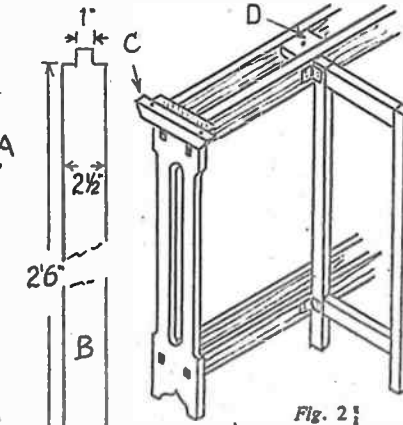
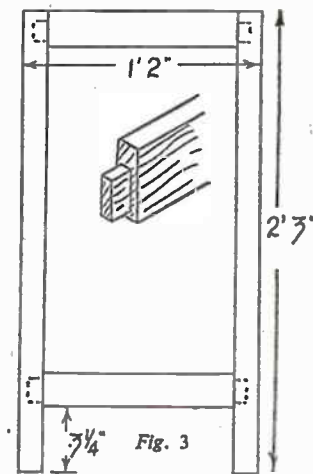

Fig. 2
Fig. 3
Glue the rails between the sides, and drive in 1 1/2 in. oval nails just above and below the tenons into them. A strong joint should result. Cut two pieces of 3/4 in. wood to 8 ins. long and 3/4 in. wide. With the 3/4 in. width horizontal, glue and nail these to the sides at the top as at (C) in Fig. 2, and bevel the ends of them to 45 degrees. Two screw holes are bored in them through which the screws, which fix the top in position, can afterwards be driven. For the same purpose, a piece of wood, say, 2 ins. long, is nailed between the rails as shown at (D). Be careful here to make sure that parts (C) and (D) are level on top with sides and rails, and that parts (C) extend over the sides just 3/4 in. each way.
The swinging legs which support the leaves are detailed in Fig. 3. Details of sizes of timber used are given in the cutting list, and need not be repeated here. Join the rails to the uprights with the usual mortise and tenon joints, and shoulder the tenons for the top rails as in the inset drawing. These legs are hinged to the rails of the centre stand with 1 1/2 in. backflaps as in Fig. 2, and should be so positioned, that when swung out, they will be in the middle.